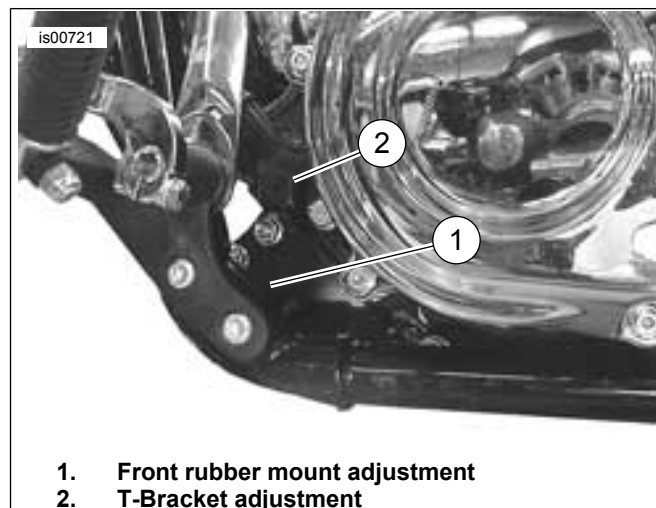

Figure 9. Front Leverage Points (Left Side Shown, Right Side Similar)
4. See Figure 9. Using a suitable tool wrapped in a clean, soft cloth, between the front mount and frame (1), move the rear wheel to the left or right, as necessary, to provide clearance for the gauge. Tighten the front mount bolts while maintaining pressure on the tool. Tighten bolts to 30–37 N·m (22–27 ft-lbs).
7. See Figure 9. Use a suitable tool between the frame and T-bracket (2). Move the rear wheel to the left or right, as necessary, to provide clearance for the gauge. Tighten the T-bracket bolts while maintaining pressure on the tool. Tighten bolts to 34–41 N·m (25–30 ft-lbs).